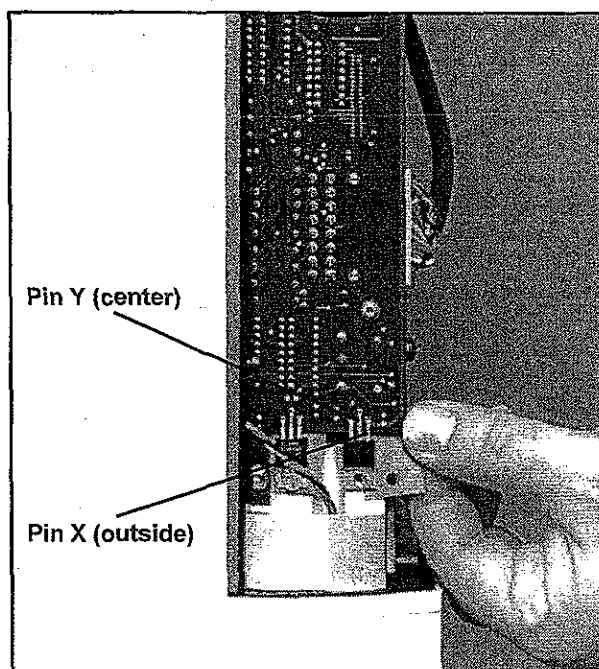

Figure 3-1: Voltage Regulator (Injector's Main PCB)
12. Locate the voltage regulator shown in Figure 3-1 and use a voltmeter to measure **15VDC** to **19VDC** across pins **X** and **Y**. Pin **Y** is Ground/Earth and is the center pin.